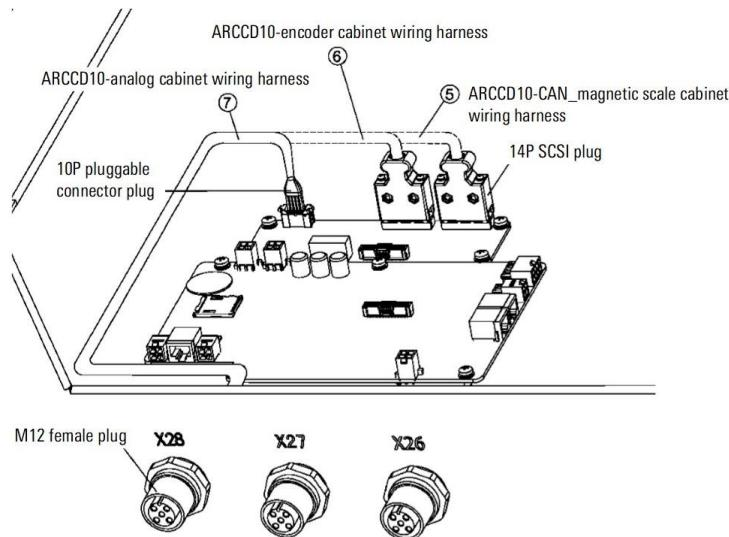

Figure 2-3 MCB-IEB cabinet inner wiring diagram
Step4. Connect the cables inside the cabinet according to the functions used, as shown in Figure 2-3:
- Use the ARCCD10-CAN\_magnetic scale signal, connect the J6 interface of the coupled ① MCB-IEB on the wiring harness side of the ⑤ ARCCD10-CAN\_magnetic scale cabinet, The other side is installed to the X28 interface on the control cabinet panel;
- b) Using incremental encoder signals, install the J7 interface of coupled ① MCB-IEB on one side of the ⑥ ARCCD10-encoder cabinet wiring harness and the other side to X28 interface on the control cabinet panel;
- c) Using ARCCD10-analog signal, install the J5 interface of coupled ① MCB-IEB on one side of the ⑦ ARCCD10-analog cabinet wiring harness and the other side to the control X28 interface on the cabinet panel.